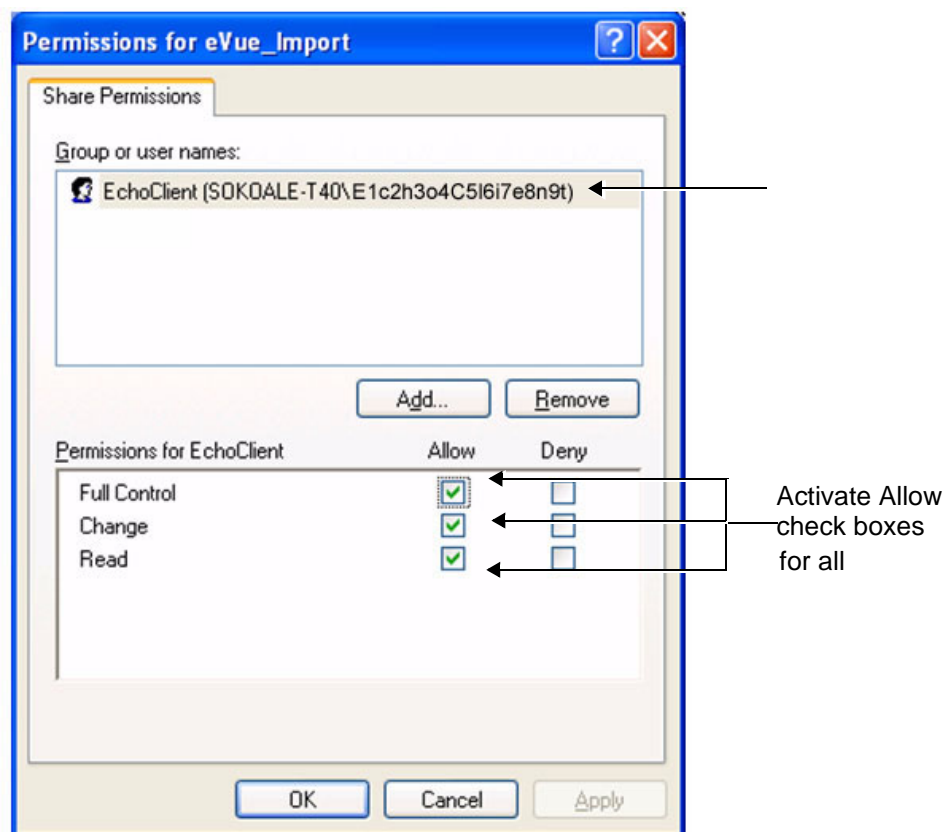

Figure 3-152 Setting Permissions for E1c2h3o4C5I6i7e8n9t
l.) From the Permission for eVue_Import dialog box, highlight and select **E1c2h3o4C5I6i7e8n9t** from the list (see Figure 3-152).